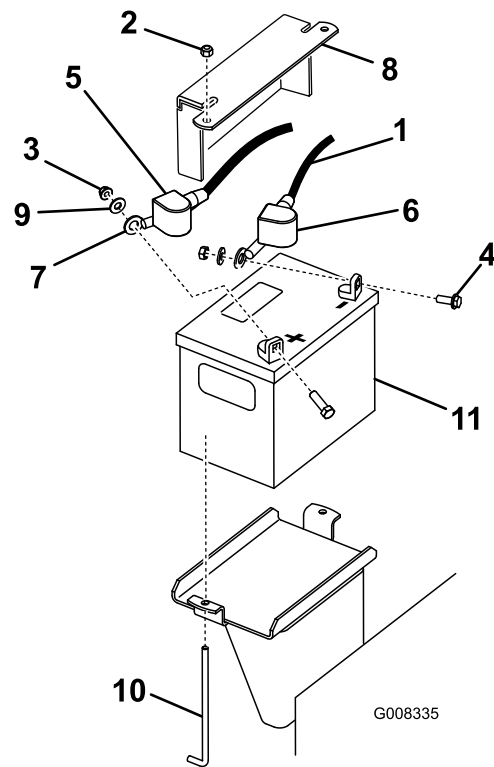

Figure 47
3. Lift the black rubber cover on the negative cable. Disconnect the negative battery cable from the negative (-) battery terminal (Figure 47).
4. Slide the red terminal boot off the positive (red) battery terminal. Then remove the positive (red) battery cable (Figure 47).
5. Remove the hold-down plate, J-bolts, and locknuts securing the battery (Figure 47). Remove the battery.
1. Using the fasteners previously removed, install the positive (red) battery cable to the positive (+) battery terminal (Figure 47).
3. Using the fasteners previously removed, install the negative (black) battery cable to the negative (-) battery terminal (Figure 47).
4. Secure the battery using the bar and wing nuts (Figure 47).